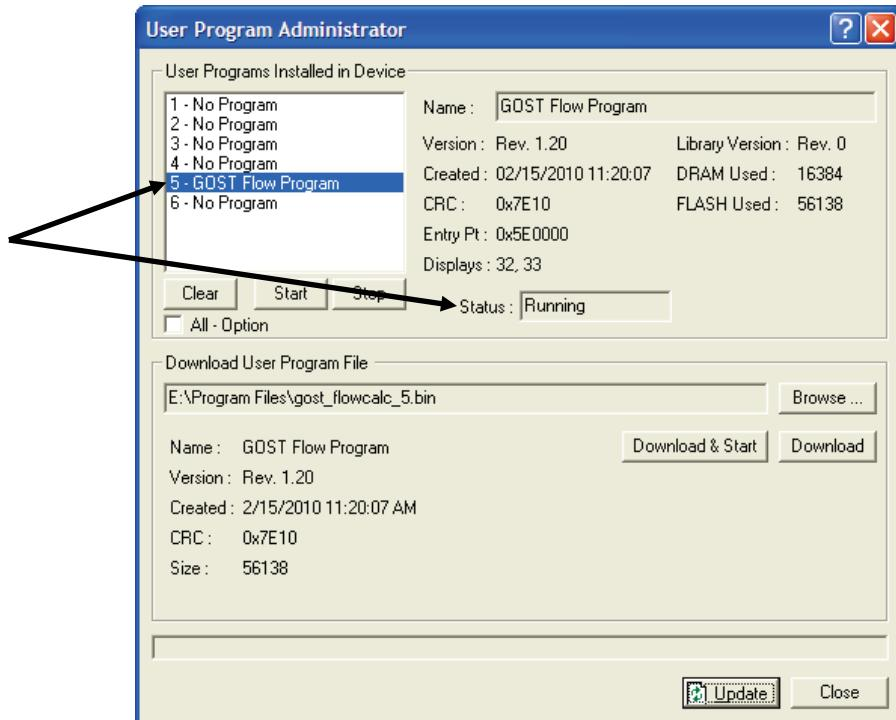

Figure 2-8. User Program Administrator
9. Click OK. The User Program Administrator screen displays (see Figure 2-8). Note that: